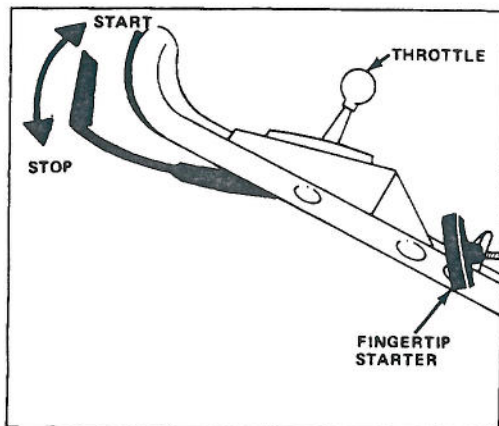

Figure 9
1. CONTROLS—Ground speed control (Model 20620 only), throttle, control bar and fingertip starter are on upper handle (Fig. 9 & 10).
3. STARTING (Model 20526)—Move throttle to CHOKE and hold control bar against handle. Pull fingertip starter out slowly until positive engagement results; then pull vigorously to start the engine. Regulate throttle as desired when engine starts (Fig. 9). When temperature is near 40°F, a few extra pulls may be required because the engine needs priming.